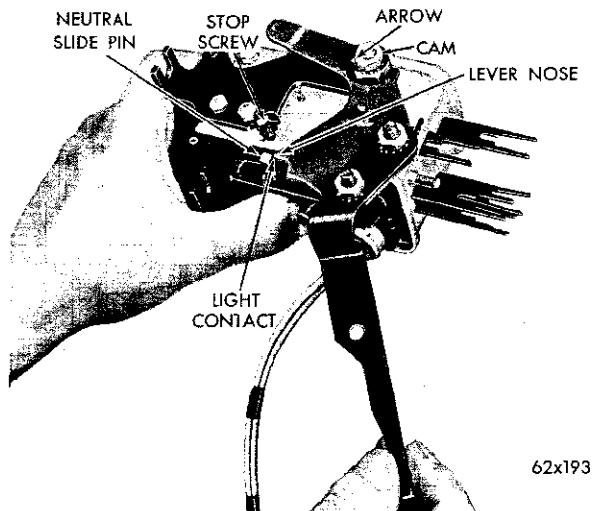

Fig. 12—Adjusting Lever Nose Contact at Neutral Slide Pin
(1) Remove the overcenter spring and back off the lever stop screw (Fig. 12). Make sure no binding exists in the neutral slide, neutral slide pin and bushing, cam pivot, and that they are adequately lubricated.